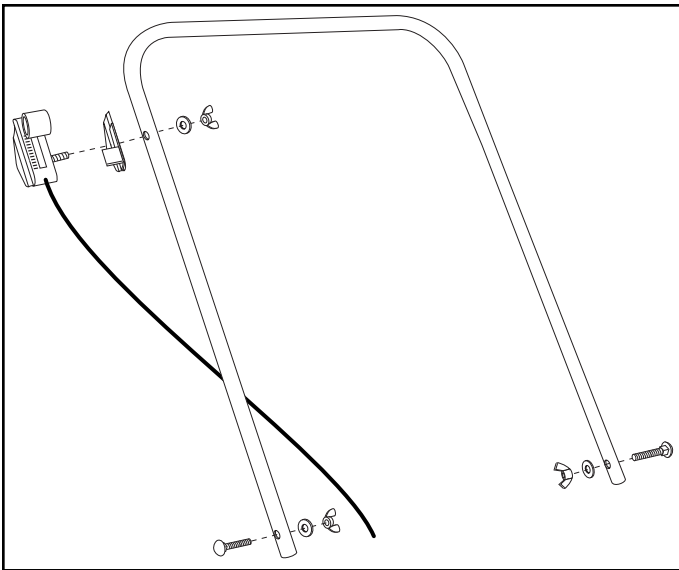

FIGURE 1
1. Assemble the handle tube to the leg tubes using the two 1/4" x 2" carriage bolts and wing nuts. See figure 1.
2. Assemble the Control Cable to the handle tube using a 1/4" x 2" carriage bolt and nylon wing nut. See figure 1.
2. For easiest application, spread across the shortest edges of lawn first, making two "header" strips for a turning area, and then spreading between the header strips. See figure 1.